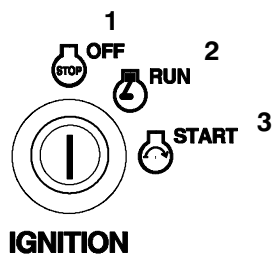

Figure 6
- Turn the ignition key to “OFF” (Fig. 6).